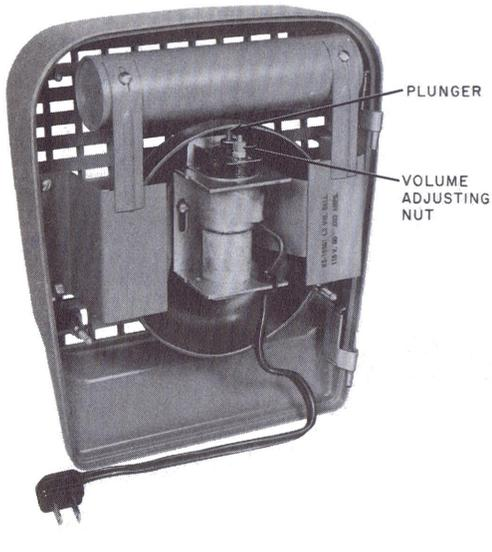

Fig. 9—KS-16301, List 3 Bell
3.09 Signals, KS-16301 (Fig. 9, 10, 11, 15, 16, 17, and 18)
5.01 The KS-16301, List 3 (vibrating bell) has a volume adjustment. On the Wheelock Signal Company type, the adjustment is a hexagonal nut on the rear of the signal (Fig. 9). The Sperti-Faraday Company type adjustment is on the back of the